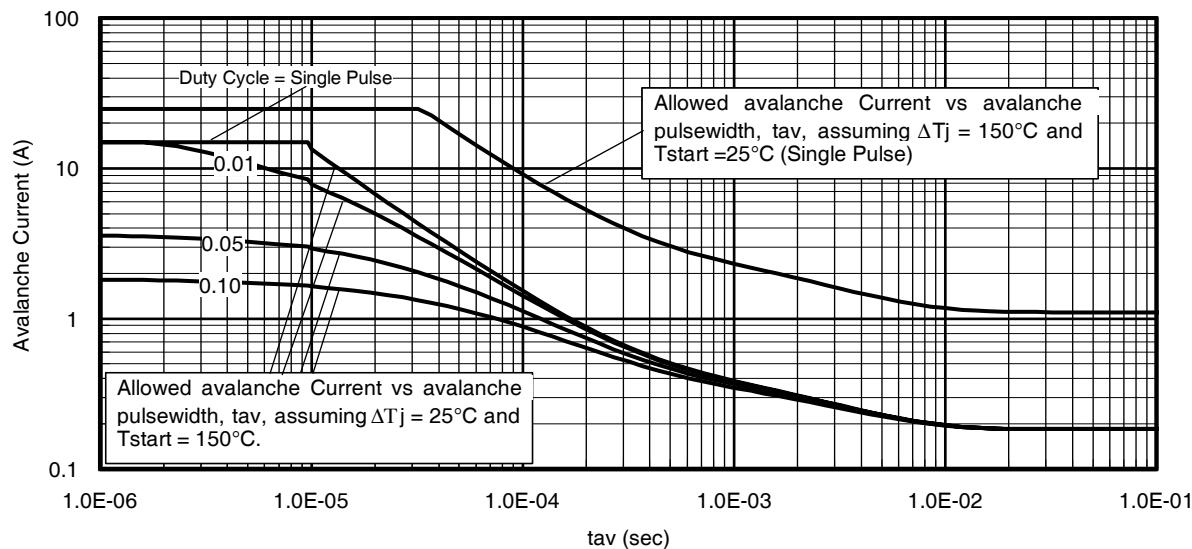

Fig 14. Typical Avalanche Current vs.Pulsewidth
| I _{AR} | Avalanche Current ① | See Fig. 14, 15, 22a, 22b, | A |
Notes on Repetitive Avalanche Curves , Figures 14, 15:
7. ΔT = Allowable rise in junction temperature, not to exceed T_{jmax} (assumed as 25°C in Figure 14, 15).